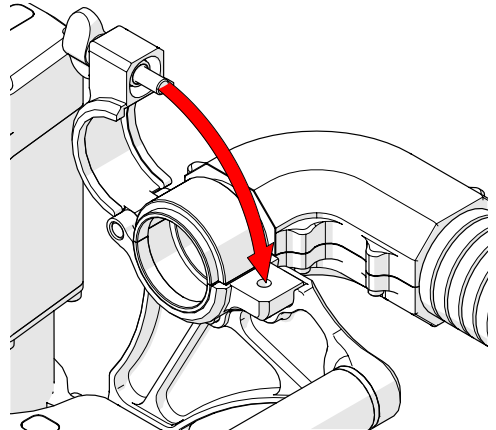

Fig. 81 - Place cable management and tighten wing knob
2. Place the cable management in the cable management clamp and tighten the cable management clamp wing knob (Fig. 81).